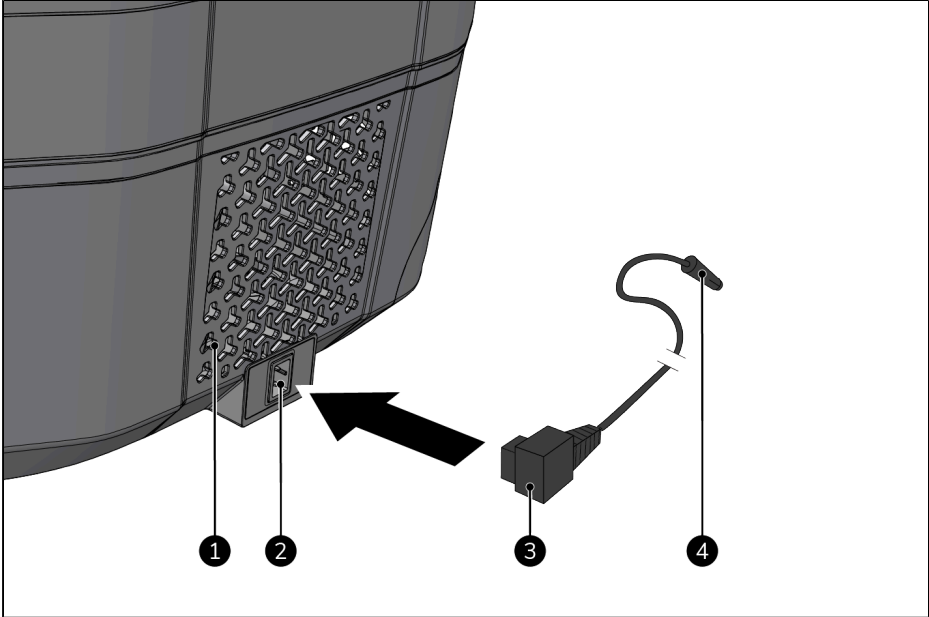

Figure 13.
2. Make sure that all three ventilation grills (Figure 13, pos. 1) have at least 5 cm of ventilation space.
3. Place the power connector (Figure 13, pos. 3) into the power supply of the device (Figure 13, pos. 2).
4. Place the auxiliary power plug (Figure 13, pos. 4) into an easily accessible 12 V or 24 V auxiliary power supply in a vehicle or vessel.